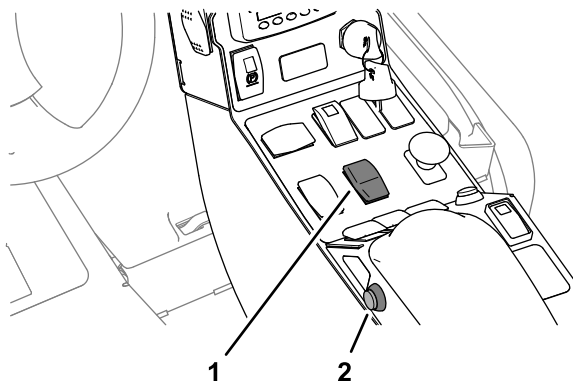

Figure 24
2. Press the high—low range-speed switch to the L (low range) position (Figure 24).
3. Press and hold the 4-wheel drive switch to engage a more aggressive 4-wheel drive response (Figure 24).